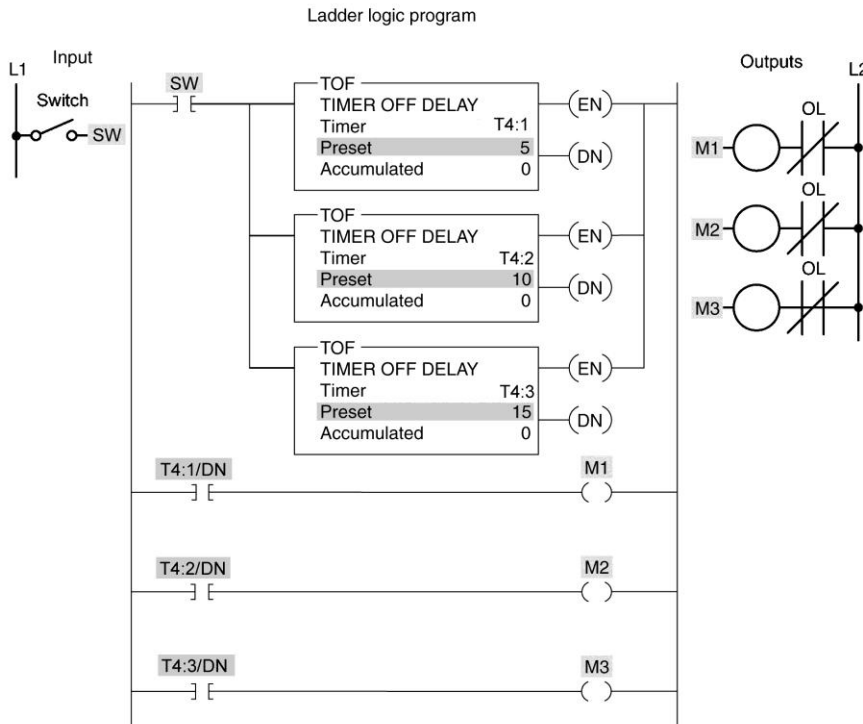

Figure 7-22 Off-delay timer program for assignment 6.
6) The program of Figure 7-22 is described in the text and uses off-delay timers to switch motors off sequentially at 5-second intervals. Prepare an I/O connection diagram and ladder logic program for the process. Use addresses that apply to your PLC. Enter the program into the PLC, and prove its operation.